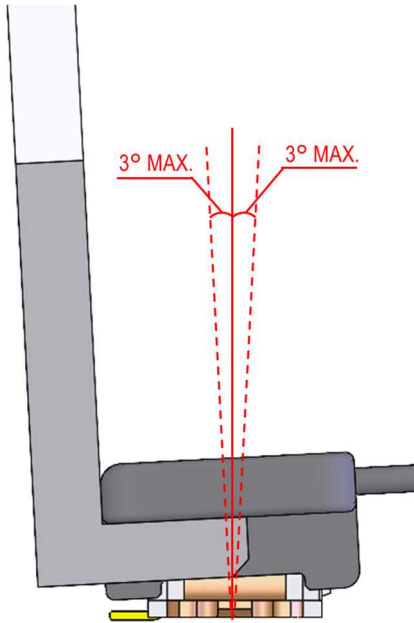

Fig16. Allowance connector mating angle
- Allowable mating angle is shown in Fig.16. When the jig is lifted up to un-mate the cable connector, The unmating angle must be within this tolerance.